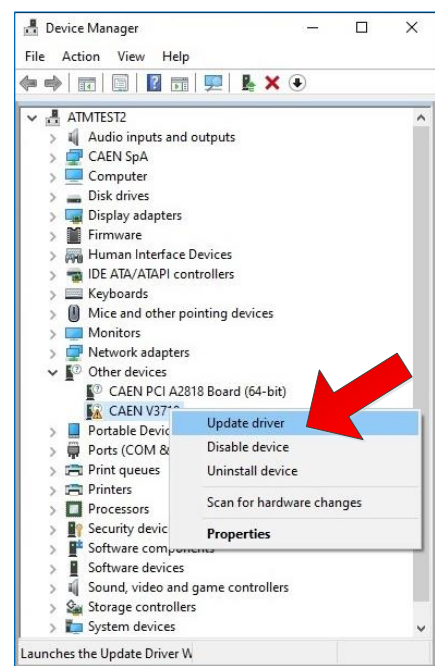

Fig. 11.2: USB Driver Installation: step 2
2. Right-click on the “CAEN V3718” item and select the *Update Driver* option in the slide menu (**Fig. 11.2**).